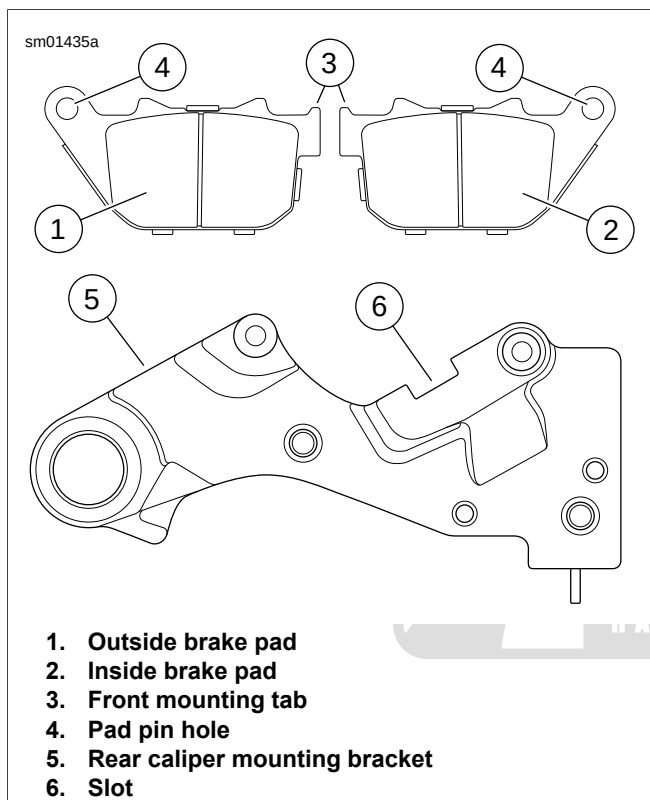

Figure 1-52. Rear Brake Pads
8. See Figure 1-52. Install **new** inside brake pad (2) using same orientation as pad previously removed. Align mounting tabs.
9. While holding **new** inside pad in place, pull pad pin out and remove outside brake pad (1). Note the pad's original orientation for replacement purposes.
- See Figure 1-52. Pad front mounting tabs (3) must be fully seated in mounting bracket slot (6).